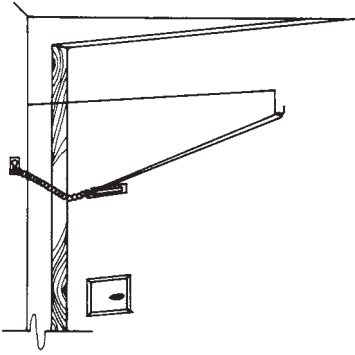

Figure 17.8 A variation of the rubber band technique.
4. If the door surface will not receive a tack, use a bent coat hanger to stretch the rubber band (Fig. 17.8). Make sure that the coat hanger is long enough and bent properly so that you can close the door as far as possible.